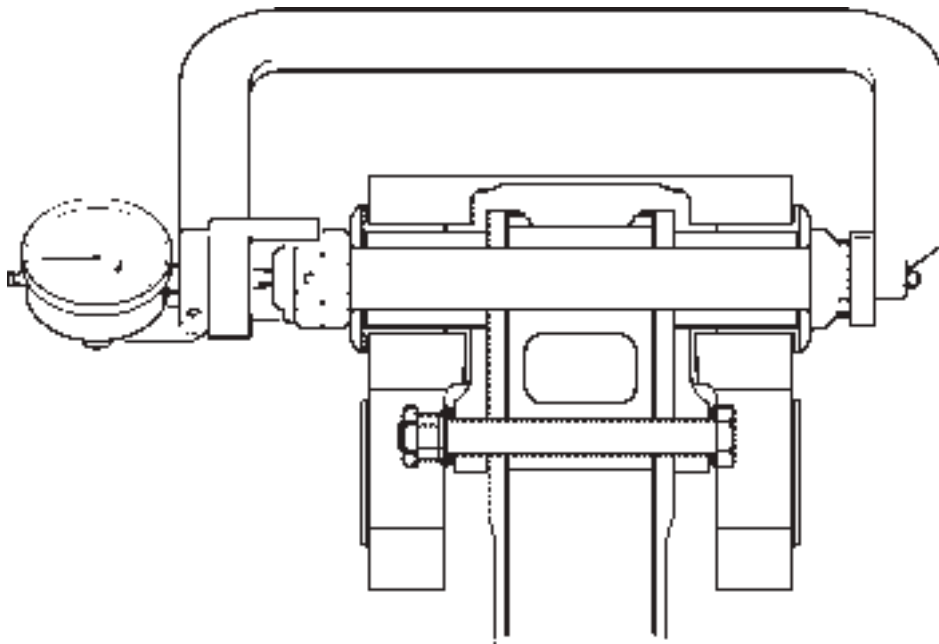

FIGURE 9-2 MEASURING BOLT STRETCH (SHOWN ON TEETER BOLT, BLADES REMOVED)
8. Refer to Figure 9-2. Install MT122-6 main rotor bolt stretch tool on hinge bolt. Zero dial indicator by rotating dial face and lock dial. Remove tool.
5. Refer to Figure 9-2. Install MT122-6 main rotor bolt stretch tool on teeter bolt. Zero dial indicator by rotating dial face and lock dial. Remove tool.